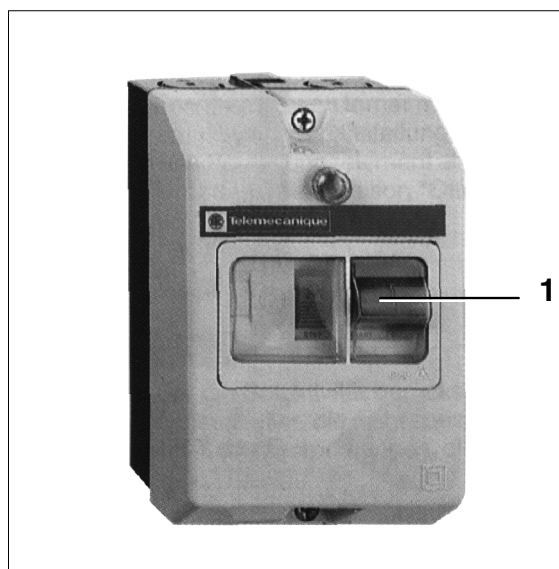

Fig. 21 Motor protection switch
- **Three-phase current:** the motor is switched on manually by pressing the start button (1, Fig. 21).